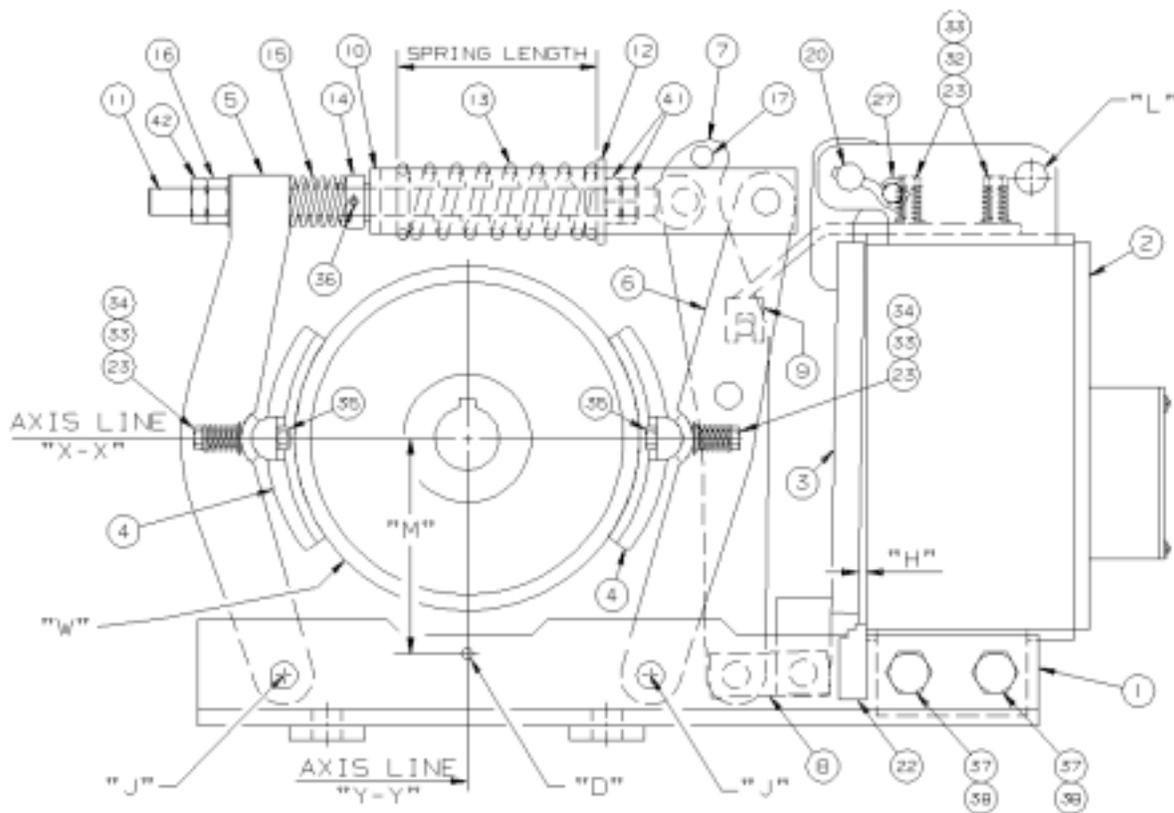

FIGURE 1. BRAKE ASSEMBLY
Refer to FIGURE 1, page 2, for a mechanical picture of the brake. Rotating mechanical power is supplied through the brake wheel “W”. Braking is achieved by the torque spring (13) applying equal force to the inboard lever arm (6) and the outboard lever arm (5) at pin points “J”. The force causes both arms to act inward toward the brake wheel center of rotation at the brake shoes (4). The force in conjunction with the brake shoe friction produces braking force at the brake wheel surface. Mechanical power is then converted into heat and dissipated through the brake wheel. The braking force is release when DC electrical power is applied to the electric coil in the magnet pot (2), producing a magnetic force that pulls the hinged armature plate (3) towards the magnet pot. The armature plate is connected through link bar (8) to release lever arm (7). When the release lever arm is actuated by the magnet, it compresses the torque spring, there by releasing the brake shoes from the brake wheel. This allows free rotation of the brake wheel.